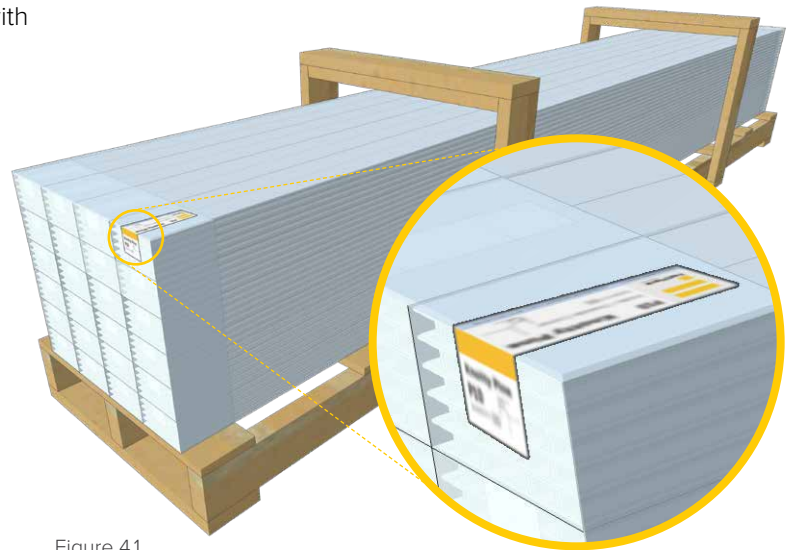

Figure 4.1
- ✓ Material will be received on an pallet (Figure 4.1). Pallet size will vary (typical pallet size is 12'-16' L x 33" W x 24"-32" T). All products will be labeled separately. Inspect all material for damage, defect, correct color, correct color consistency, and correct trim specification.